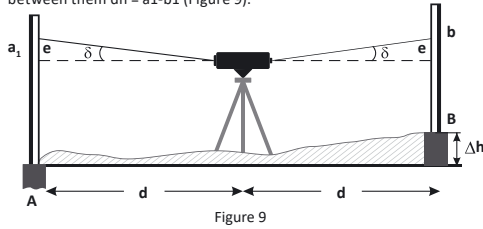

Figure 9
a) Set leveling staffs A and B at distance 50 m from each other. Set the instrument right in the middle between the staffs. Level the instrument and take the readings on the staffs A and B accordingly. Exceedence between them  $\Delta h = a_1 - b_1$  (Figure 9).